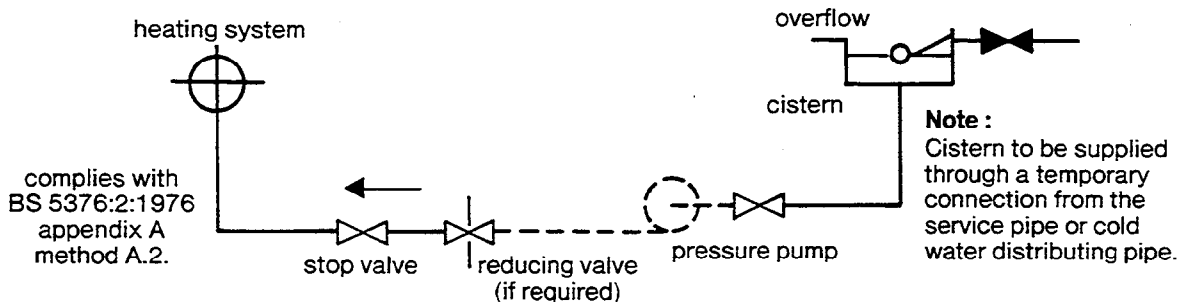

Fig. 10
2) Through self contained unit comprising a cistern, pressure booster pump if required and if necessary a pressure reducing valve or flow restrictor. Fig. 10.